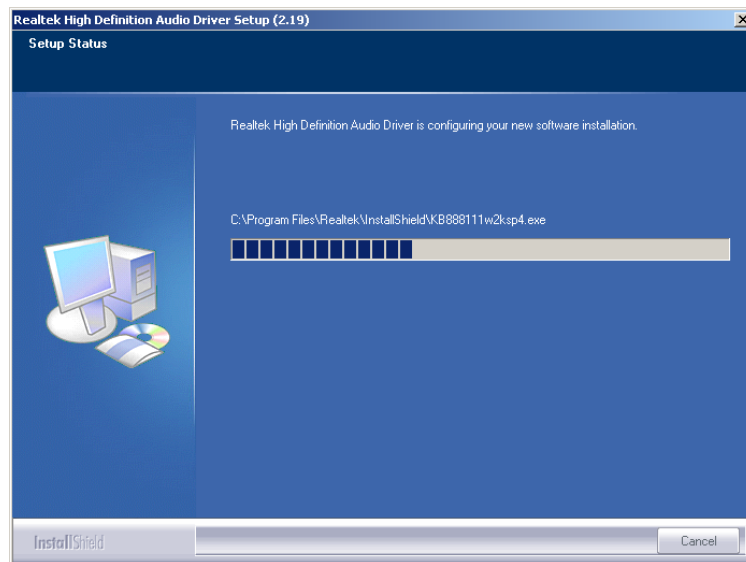

Figure 7-37: Audio Driver Software Configuration
Step 8: InstallShield starts to install the new software as shown in **Figure 7-37**.